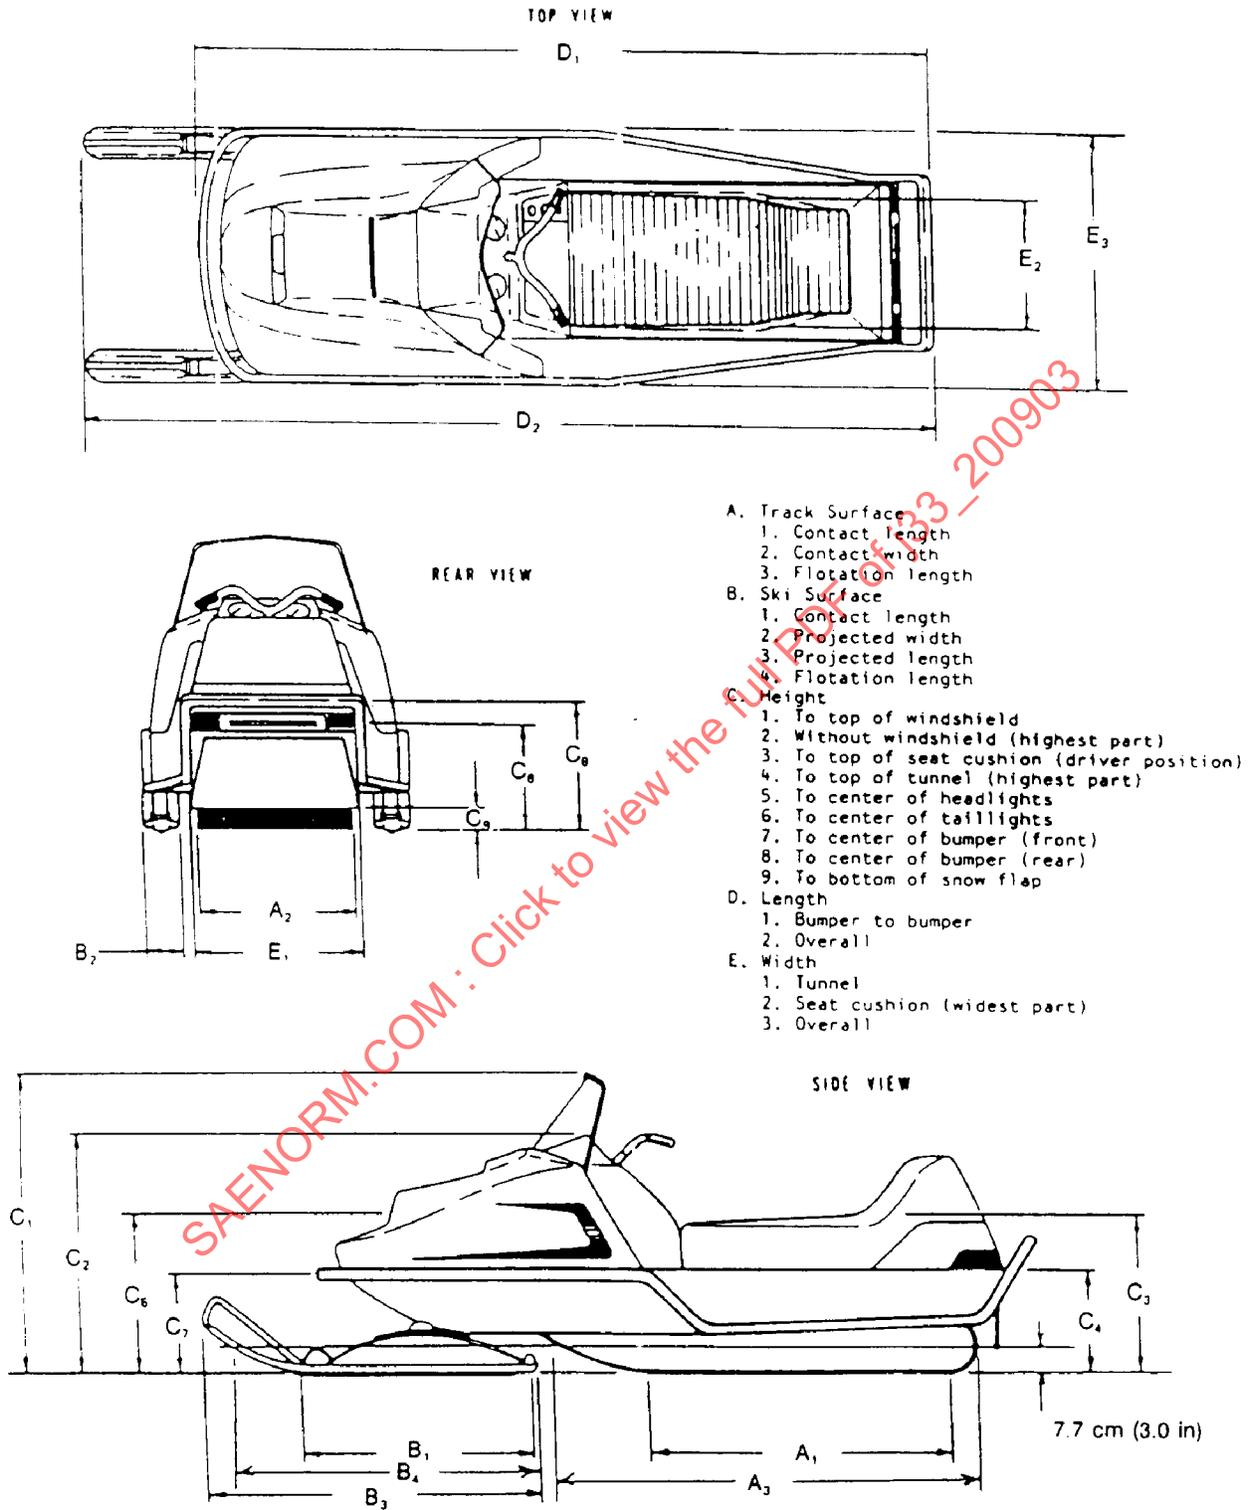

FIGURE 1—SNOWMOBILE DIMENSIONAL DEFINITIONS
- 3.5 Flotation Area (Bearing Area)**—The projection in a horizontal plane of the area on the surface of the track and skis which contact the snow. To account for machine penetration into snow, the projection plane is located 75 mm (3 in) above a nonyielding horizontal surface supporting the snowmobile while in a curb weight condition. (See side view Figure 1.)
- 4. Snowmobile Dimensional Definitions**—The dimensions listed are defined by Figure 1 and are to be taken with the snowmobile in an unladen weight condition on any unyielding horizontal surface, with the following exceptions: